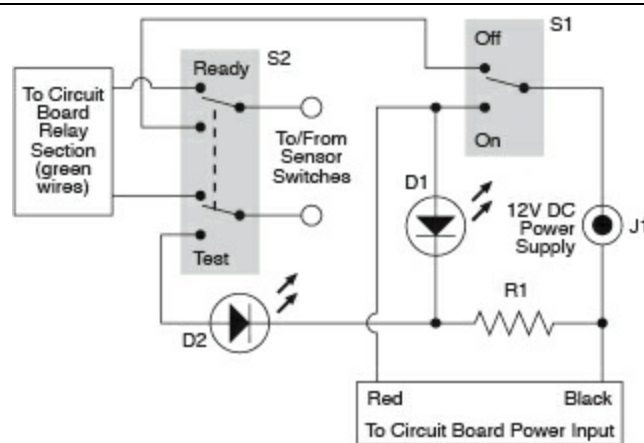

Figure 3-106. This schematic suggests a convenient way to add an on/off switch, a continuity testing feature, and a noisemaker testing feature to the alarm.
The circuit shown in Figure 3-106 incorporates all of these features. S1 is a SPDT switch; S2 is a DPDT momentary pushbutton of ON-(ON) type. I spliced S2 into the circuit by first cutting the two green wires that connect the sensor switches with the rest of the relay circuit. I then attached one pair of those wires to one side of S2 and the other pair to the other side, as shown in the figure. The schematic shows it in its “relaxed” mode, when the button is not being pressed.